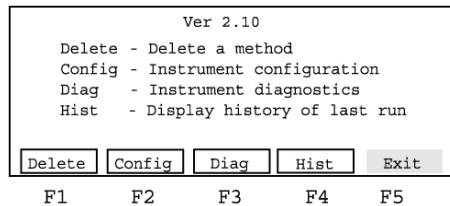

Figure 5-2. The Utilities screen
1. From the Main menu, press **F4-Util**. This displays the Utilities screen (Figure 5-2).